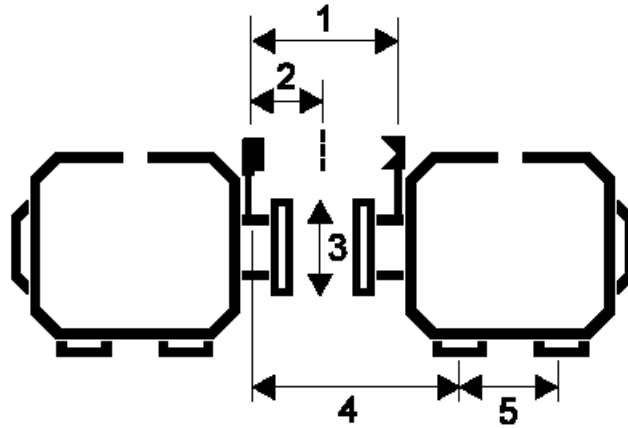

Figure 2
- B) Turn on your MASTERLIGN® and enter dimensions according to the screen diagram shown in Figure 2: